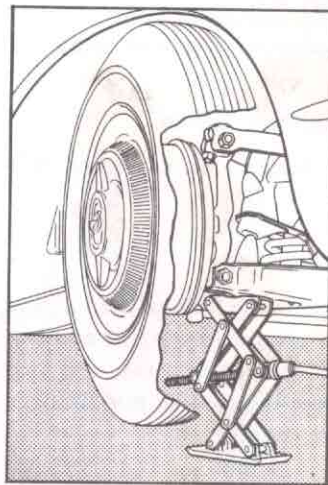

Fig. 30—Position of Jack for Front Tire Change
- a. At front wheel place jack under the front suspension lower control arm near outer end (fig. 30).